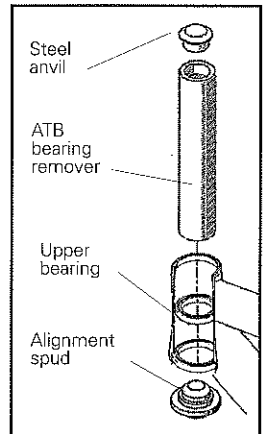

Fig. 34
2. Insert the large end of the **alignment spud** into the lower bearing (Fig. 34).